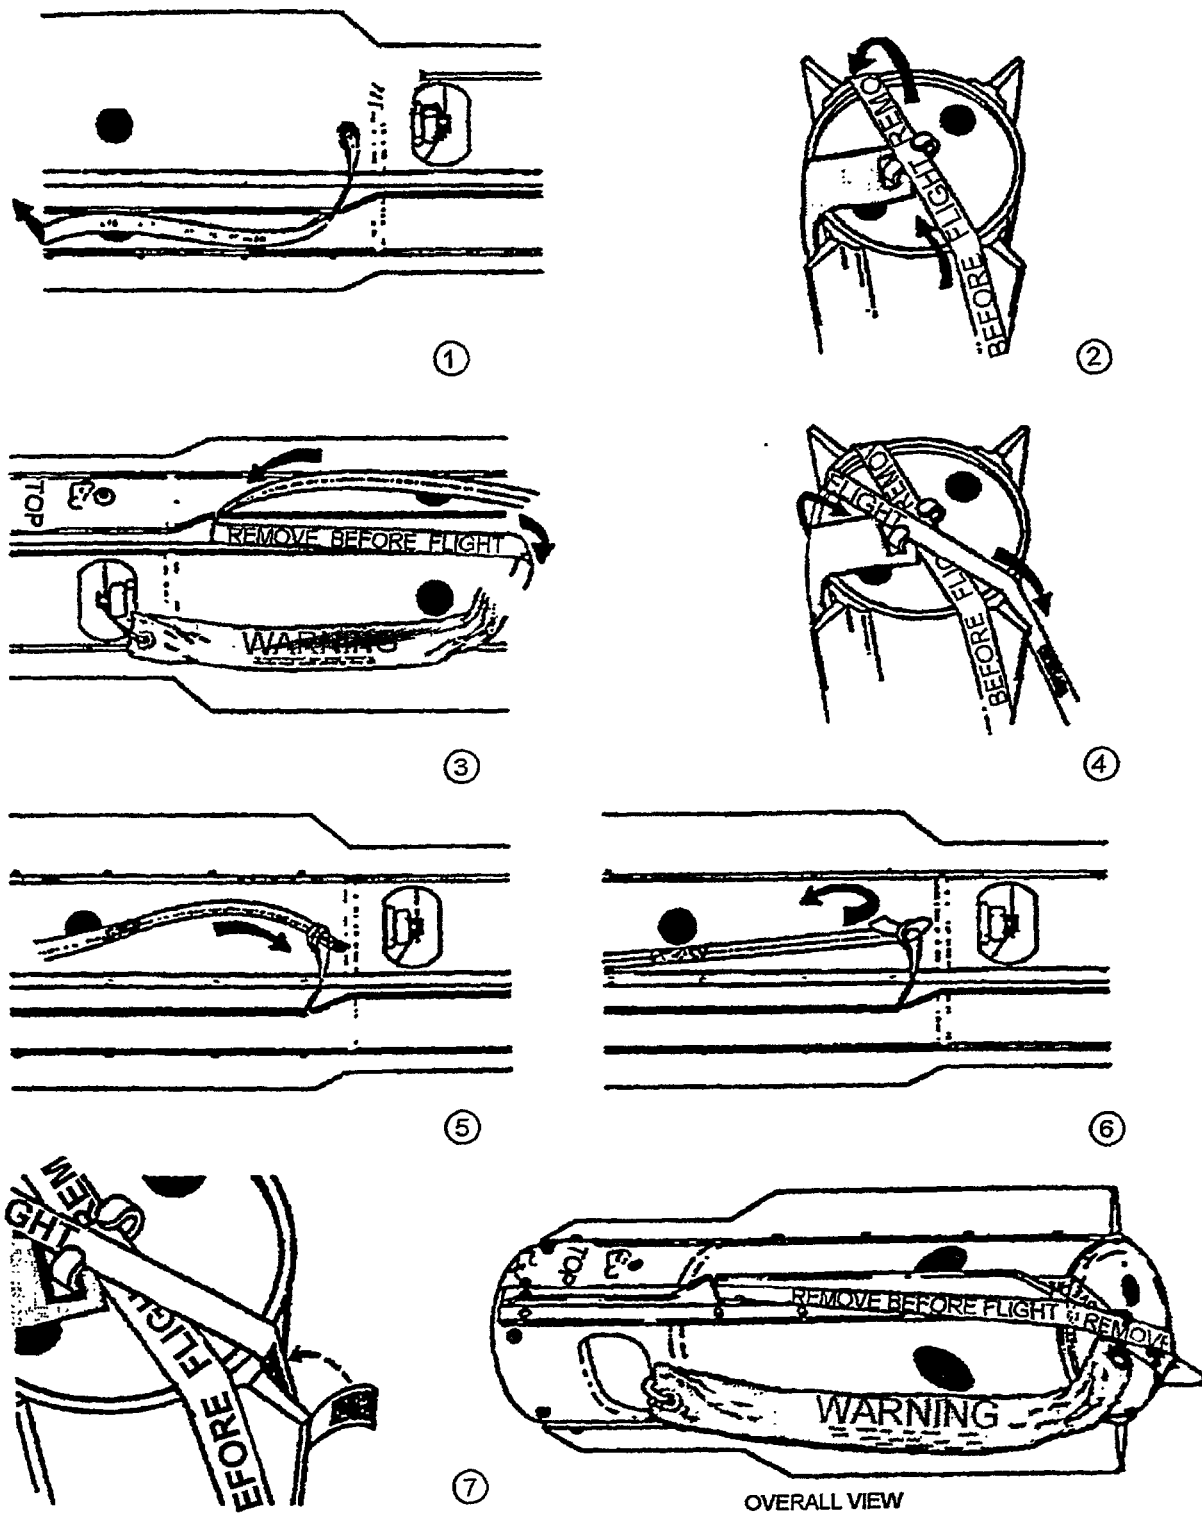

Figure 5-1D. Tail Section Mk 16 Safety Harness Assembly Installation
- e. Install safety harness on tail section (Figure 5-1D).
- (1) Remove bolt and antitorque washer securing solenoid arming cable to tail.
- (2) Remove shoulder screw securing solenoid arming wire guide to arming wire retainer.
- (3) Verify a safety clip is installed in vane of arming device.
- (4) Use flat tip screwdriver to twist open and remove solenoid cable safety clip from arming device vanes.
- (5) Set solenoid arming cable and associated hardware aside for repackaging.